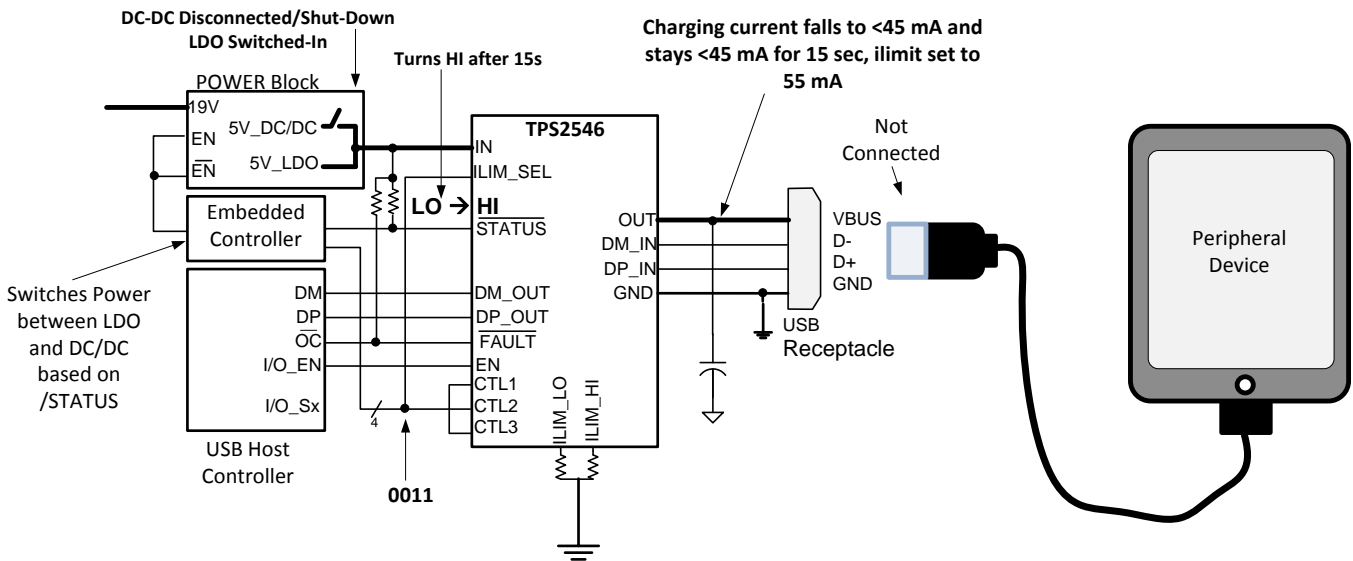
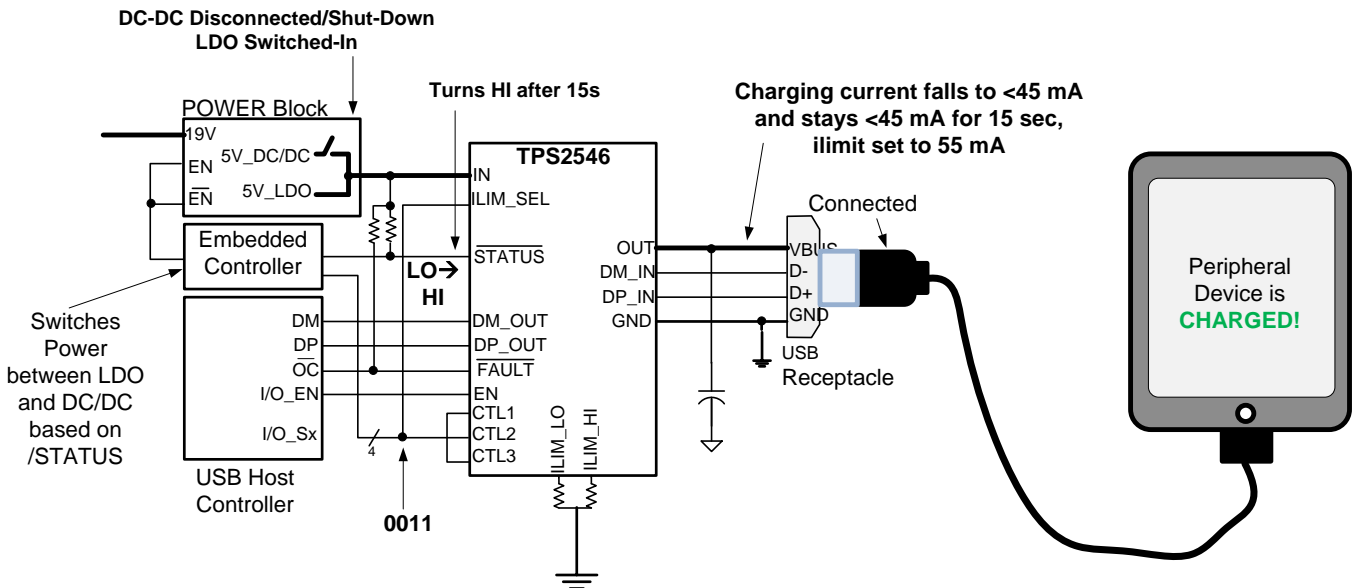
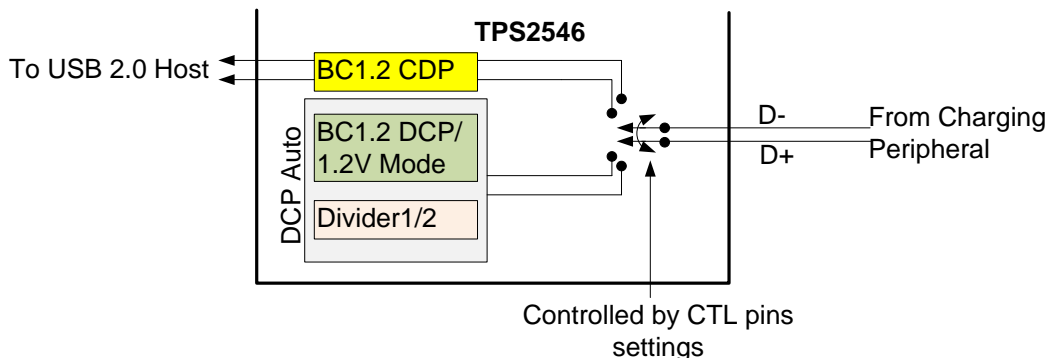

Figure 34. Case 2A: System in S4/S5, No Device Attached
Figure 35. Case 2B: System in S4/S5, Attached Device Fully Charged
Figure 37. DCP Auto Mode
The goal of the power wake feature is to save system power when the system is in S4/S5 state. In the S4/S5 state, the system is in deep sleep and typically running off the battery; so every mW in system power savings translates to extending battery life. In this state, the TPS2546 monitors charging current at the OUT pin and provide a mechanism through the STATUS pin to switch out the high-power DC-DC controller and switch in a low power LDO when charging current requirement is < 45 mA (typical). This would be the case when no peripheral device is connected at the charging port or if a device has attained its full battery charge and draws <45 mA. A power wake flow chart and description is shown in Figure 34.
An implementation of power wake in notebook platforms with the TPS2546 is shown in Figure 35 to Figure 37. Power wake function is used to select between a high-power DC-DC converter, and low-power LDO (100 mA) based on charging requirements. System power saving is achieved when under no charging conditions (the connected device is fully charged or no device is connected) the DC-DC converter is turned off (to save power because it is less efficient in low-power operating region) and the low-power LDO supplies standby power to the charging port.
Power wake is activated in S4/S5 mode (0011 setting, see Table 3), TPS2546 is charging connected device as shown in Figure 35, STATUS is pulled LO (Case 1) which switches-out the LDO and switches-in the DC-DC converter to handle high-current charging.
As shown in Figure 34 and Figure 35, when connected device is fully charged or gets disconnected from the charging port, the charging current falls. If charging current falls to  $< 45$  mA and stays below this threshold for over 15 s, TPS2546 automatically sets a 55-mA internal current limit and STATUS is de-asserted (pulled HI). As shown in Figure 34 and Figure 35. This results in DC-DC converter turning off, and the LDO turning on. Current limit of 55 mA is set to prevent the low-power LDO output voltage from collapsing in case there is a spike in current draw due to device attachment or other activity such as display panel LED turning ON in connected device.
Following Power Wake flow chart (Figure 34) when a device is attached and draws  $> 55$  mA of charging current the TPS2546 hits its internal current limit. This triggers the device to assert STATUS (LO), and turn on the DC-DC converter and turn off the LDO. TPS2546 discharges OUT for  $> 2$  s (typical), allowing the main power supply to turn on. After the discharge, the device turns back on with current limit set by ILIM\_HI (Case 1)